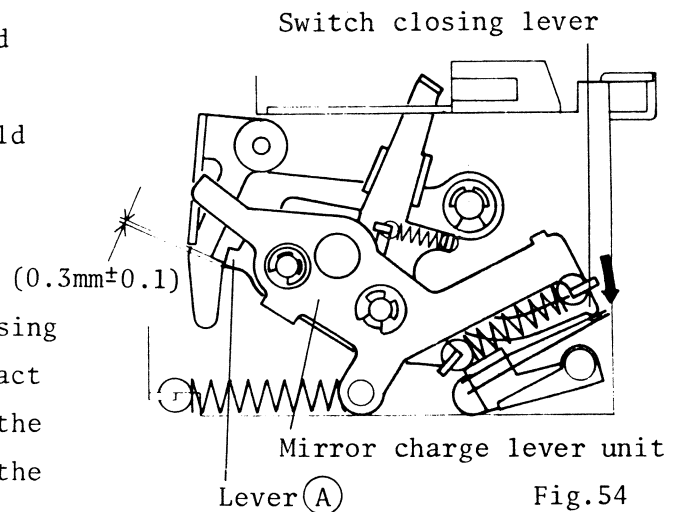

Fig.54
- d. With the both contacts touched slightly, the lever (A) of the mirror charge lever unit should be $0.3 \text{ mm} \pm 0.1$ distant from latching point as shown in Fig.54.